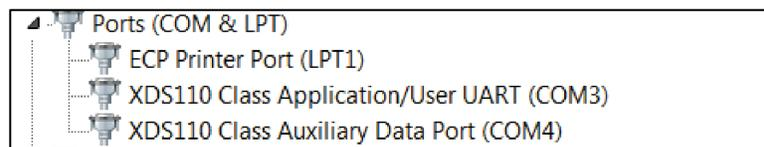

Figure 2. Device Manager Ports
1. First follow the first-time setup instructions previously described before following the steps here. If the mmWave device is connected by the USB cable to the PC running this app, then you can locate the following COM ports using the Device Manager on a Windows PC (see Figure 2).